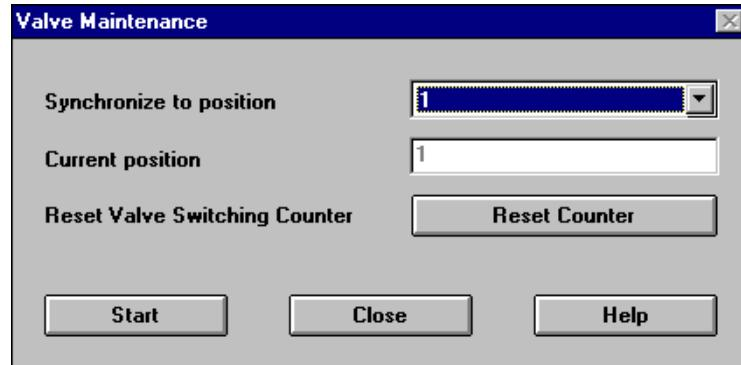

Figure 17 Valve Synchronization
- 3 In the upcoming dialog box click on **Reset Counter** (see also Figure 17 on page 37).
2 Select Valve from the Maintenance menu.	The valve should now display the Current Position as displayed in <a href="#">Figure 17</a> . If the current position is 0, it is unknown